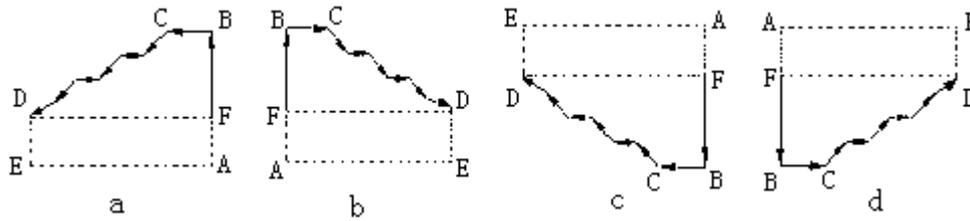

Fig. 4-38
- 14) There are four shaper in G71: Fig. 4-38, A is G71 starting point, B is the starting point, D is end point, BCD section is the finishing path.